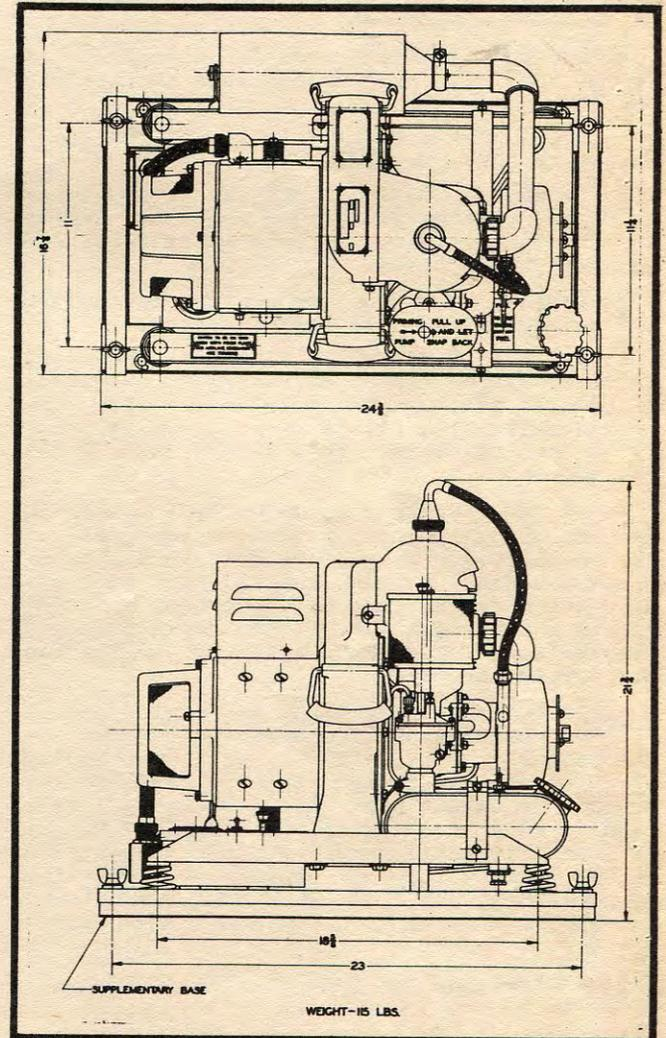

Figure 2 - Dimensional Sketch
a. Take out nails holding base to packing case and remove case from base. Be sure to take out the cleat placed between the base (figure 2) and supplementary base as the unit must be free to "float" on the four shock-absorbing foot springs.
b. Install the supplementary base in the following manner. (See figure 2).
(1) Base is to be installed, open side of channel up, so that Power Plant will be level when airplane is in taxiing position.
(2) Drill four mounting holes in channels of supplementary base, locating these holes as necessary to meet airplane structural members.